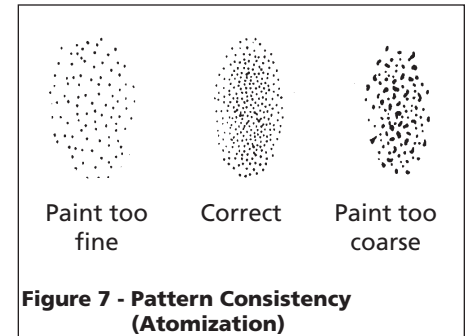

Figure 7 - Pattern Consistency (Atomization)
4. Trigger a short burst while turning fluid control knob counterclockwise. Observe the spray pattern on the target and adjust the fluid control knob until the desired pattern (atomization) is obtained (See Figure 7).